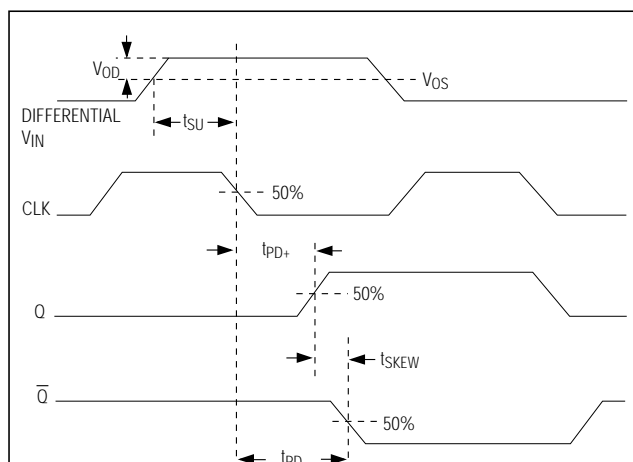

Figure 1. Timing Diagram
**Note 6:** Guaranteed by design. Measured in a high-speed fixture with CL = 15pF, IQ = 2mA. See Figure 1 for timing parameter definitions. Guaranteed for both single- and dual-supply operation.
**Note 8:** Propagation delay skew is defined as the difference in tPD for the complementary outputs, Q and  $\bar{Q}$  (see Figure 1).